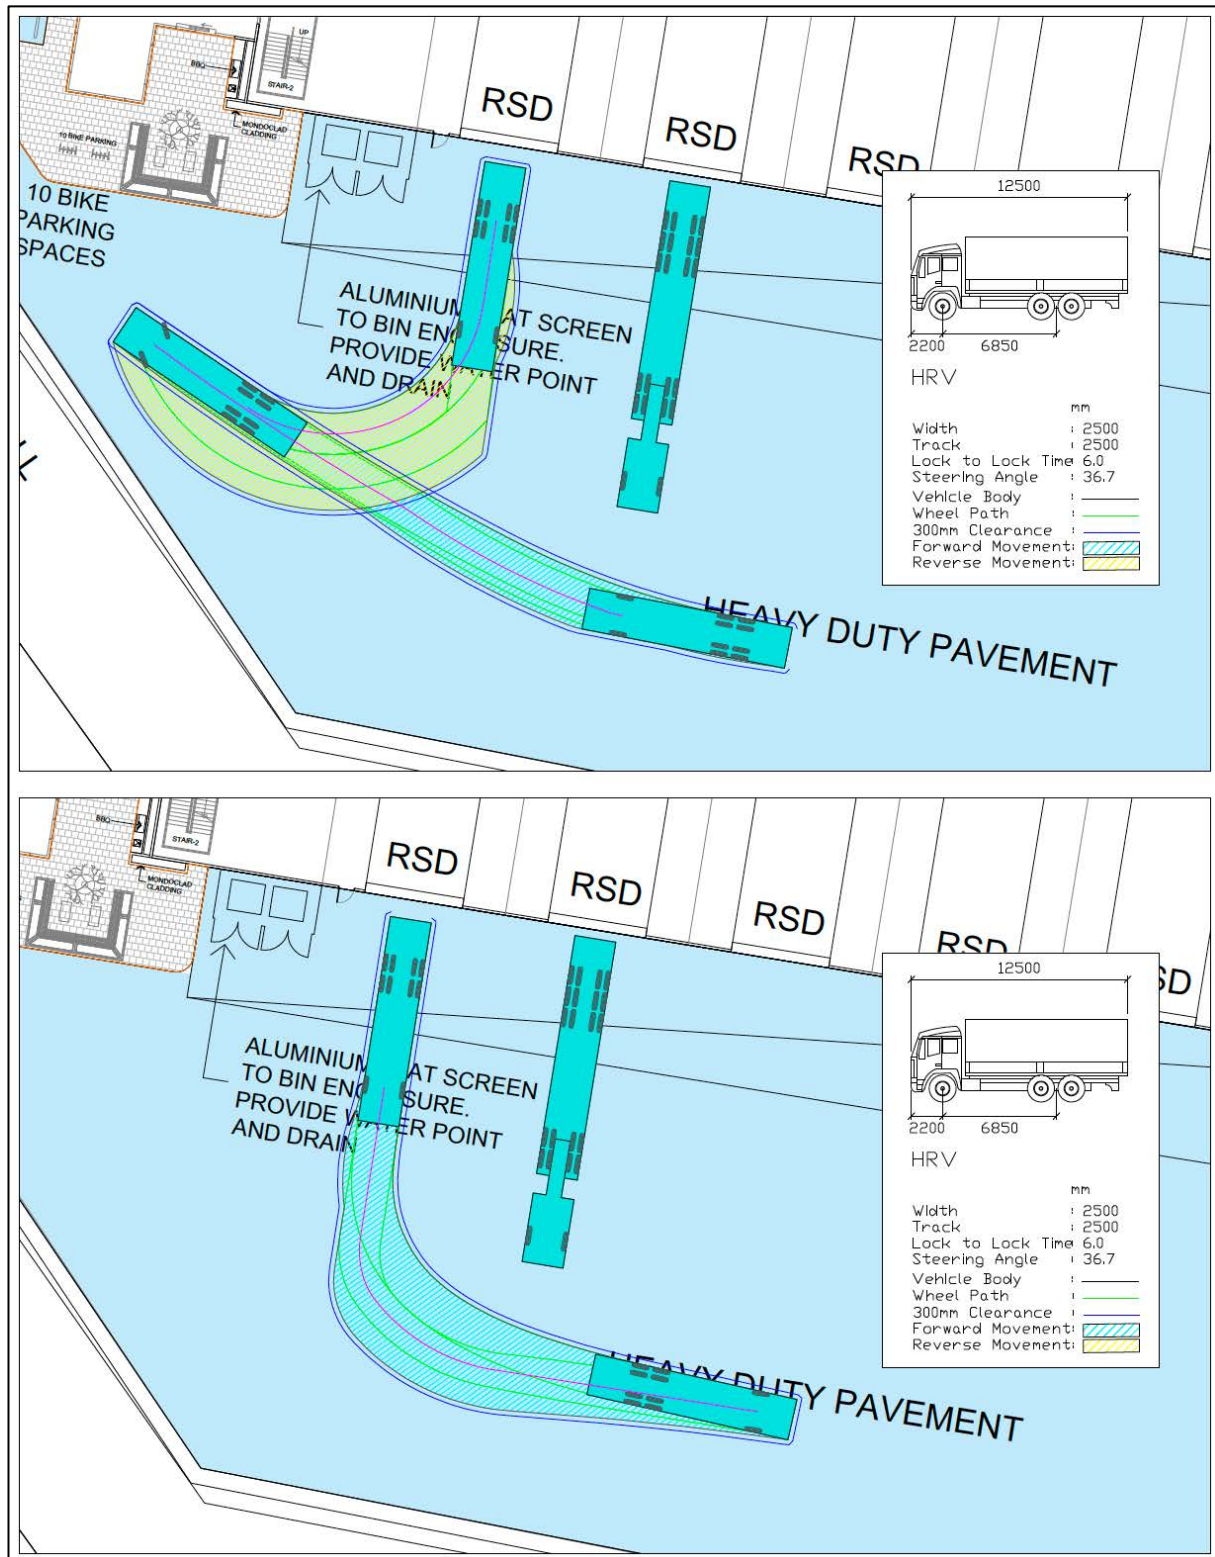

FIGURE 6.2 – ON-SITE SERVICE VEHICLE MANOEUVRING (HEAVY RIGID VEHICLE (HRV))
Swept path analysis of a Heavy Rigid Vehicle (HRV), Articulated Vehicle (AV) and B-Double Vehicle negotiating the proposed arrangements are shown in Figures 6.2 – 6.6.
It is noted that the westernmost loading bay is suitable for service vehicles up to the size of a Heavy Rigid Vehicle (HRV) only. As shown in Figure 6.2, a HRV can satisfactorily reverse into the loading zone whilst maintaining adequate clearance.